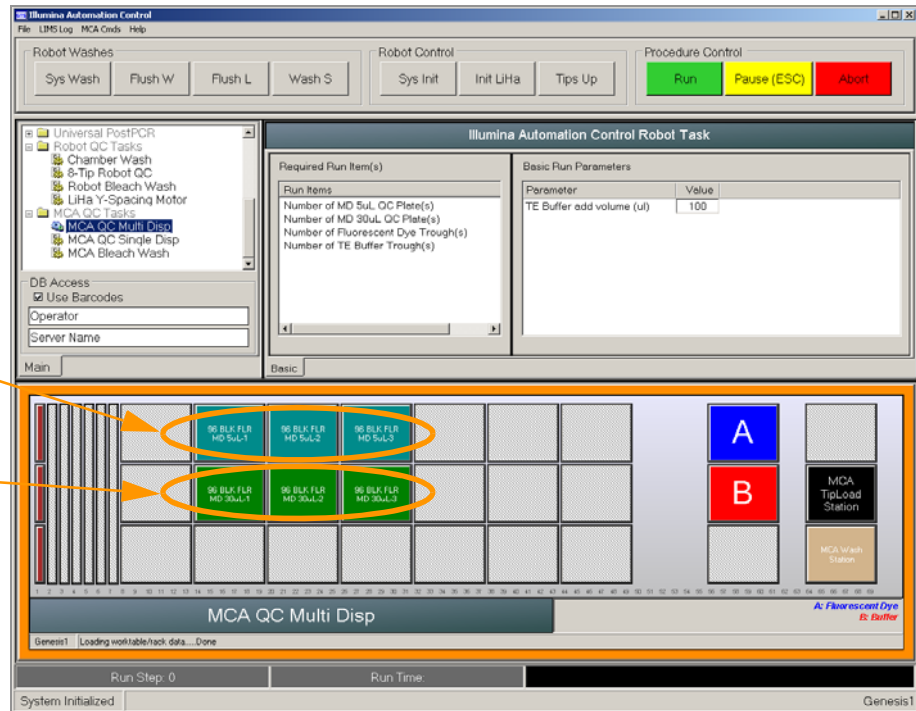

Figure 79 MCA QC Multi Disp Task
6. Place the Fluotrac 200 plates on the robot bed according to the robot bed map. The MD 5 $\mu$ L-1, MD 5 $\mu$ L-2, and MD 5 $\mu$ L-3 plates should be on the back row, left to right, and the MD 30 $\mu$ L-1, MD 30 $\mu$ L-2, and MD 30 $\mu$ L-3 plates should be in the middle row, left to right. See Figure 79 for correct plate placement.